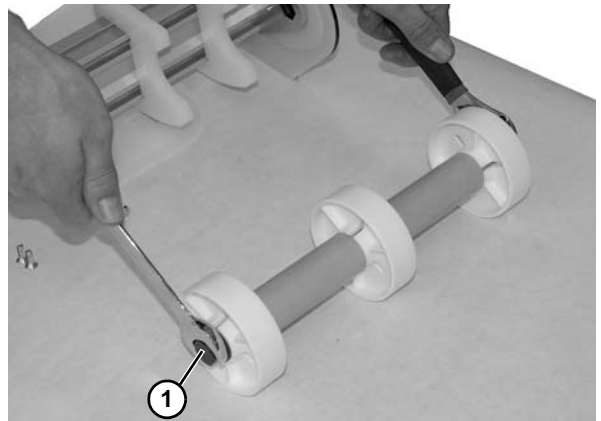

Figure 85
7. Use wrenches to remove both bolts (Figure 85, item 1) from each side of roller assembly.